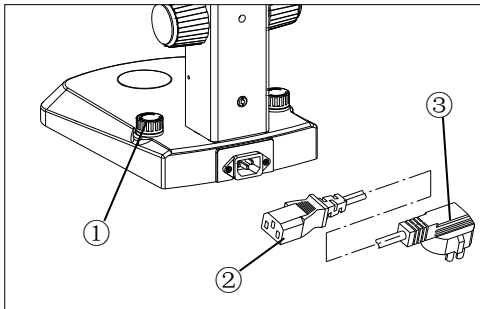

Fig. 4
2.2.3 Connecting the power cord (Fig.4)